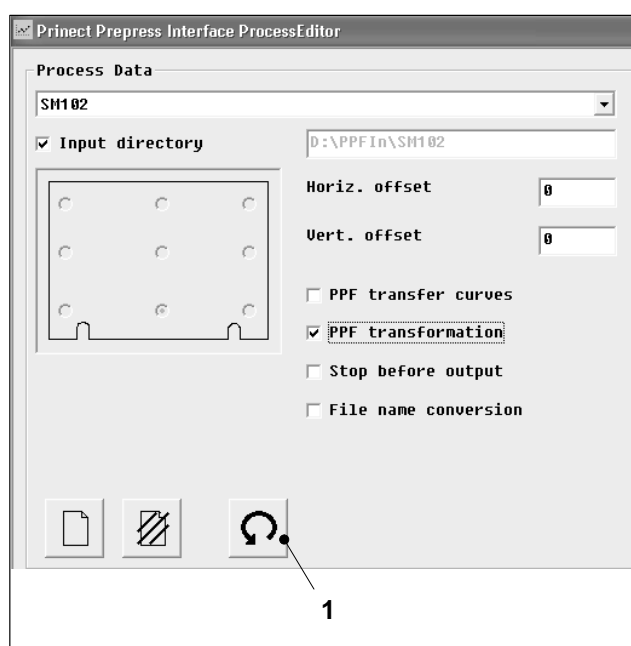

Fig. 17 The *Rotate/mirror the image data* button
7. Click on the *Rotate/mirror the image data* button (Fig. 17/1).